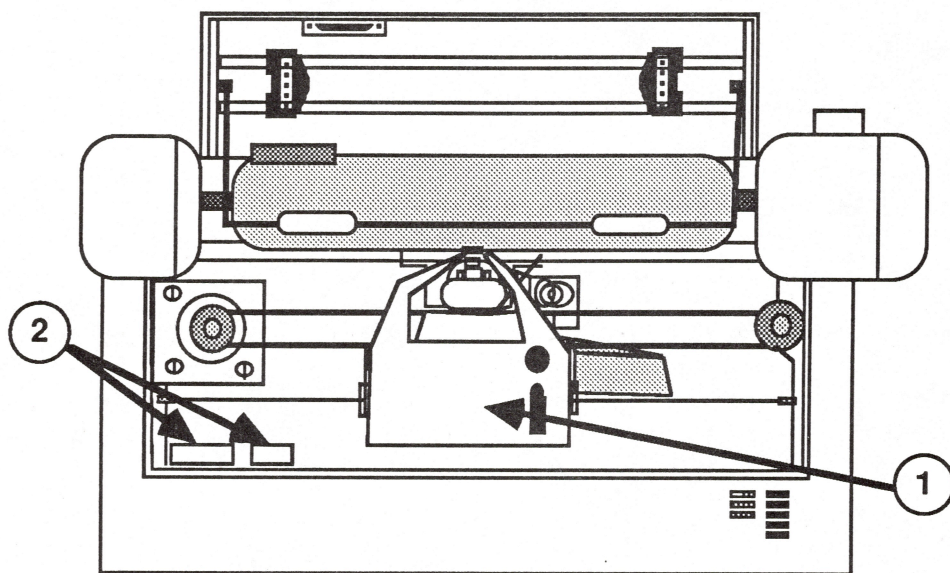

FIGURE 6
3. Slide the carrier all the way to the right (see Figure 6, #1).
4. Locate the switches SW 1 and SW 2 (see Figure 6, #2).